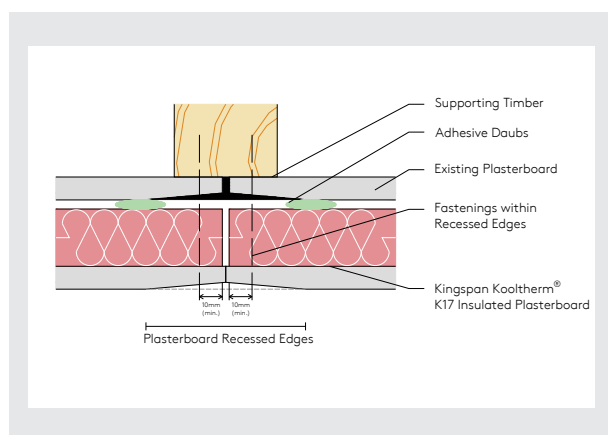

Figure 10
- Construction adhesives can compress down causing the board to sit flush with the existing wall (**Figure 10**). It is important to note that the new wall lining will follow the contour of the existing wall, therefore ensure the deviation (existing wall alignment tolerance) from the highest point to the lowest point does not exceed a 5 mm gap in any direction (vertical or horizontal) when measured with a 2 m straight edge. This attachment method must only be used where the background alignment is satisfactory.